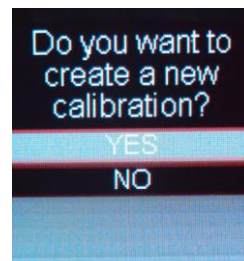

Figure 3
3. Select YES to start calibration & NO to cancel (Fig 3).